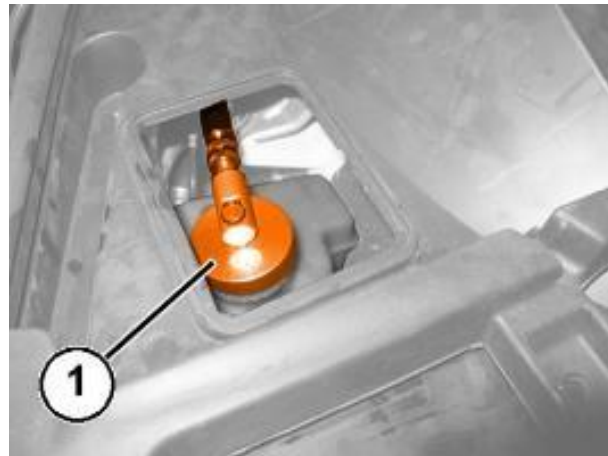

Figure 111 – Bleeding Equipment
85. Connect the bleeding equipment (1) to the brake fluid reservoir and pressurize the system (Figure 111).